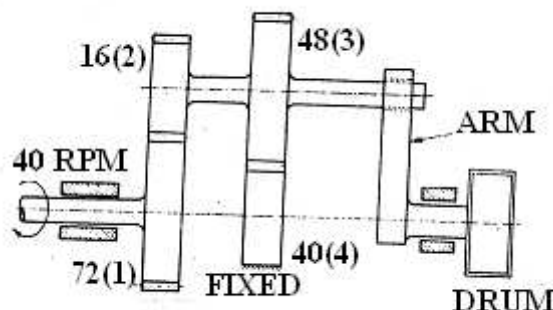

Figure 3:
3. Figure 3 shows a compound epi-cyclic train employed to run a winch drum. Input shaft keyed to Gear 1 is driven at 40rpm clockwise and gear 'D' is fixed (grounded). Number of teeth on each gear wheel is given in figure. Determine the speed and direction of the drum.